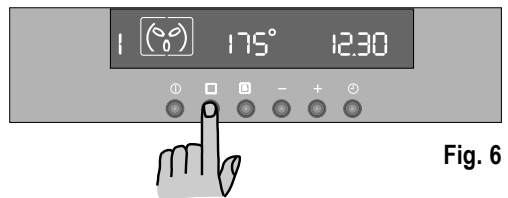

Fig. 6
2) Press button **2** to select the required oven function. Each time button **2** is pressed, a cooking symbol will appear in the display and the corresponding cooking function number will appear to the left of the currently selected cooking function symbol (Fig. 6).